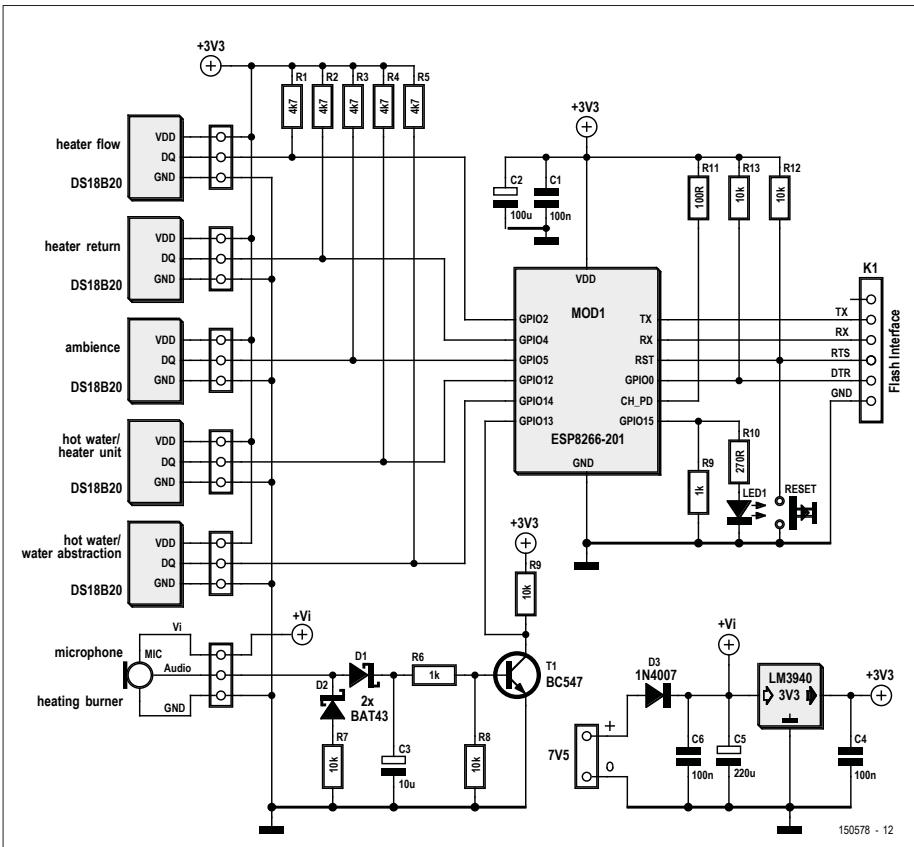

Figure 2. The measuring server is based around the ESP8266.
The circuit for the project with its central ESP8266 can be seen in **Figure 2**. The data signals from the temperature sensors connect to GPIOs 2, 4, 5, 12 and 14; each data line (DQ) has its own pull up resistor. The power for the sensor chips connects via VDD to the 3.3-V regulator output. The microphone we've used here includes a preamp and is powered from a 7.5-V supply. When the burner is running the microphone produces an output signal of around 5 V_{pp}, which is rectified by D1 and D2, transistor T1 conducts to pull GPIO 13 low, indicating the burner is noisy (active).